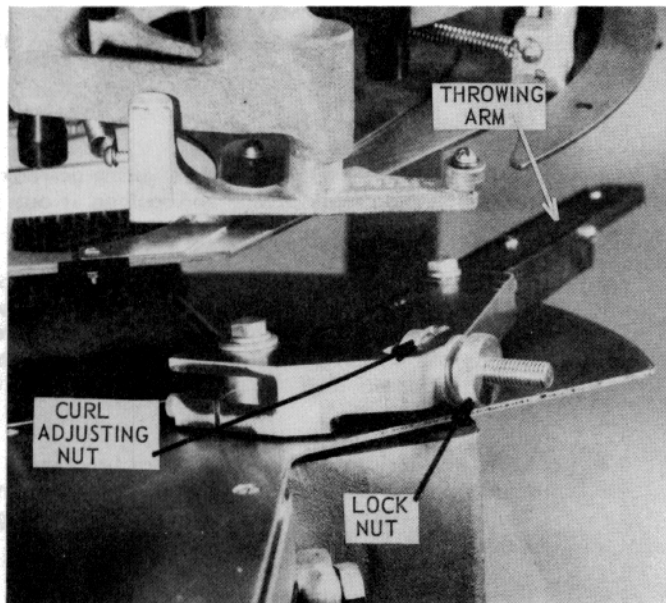

Figure 14 — Target Throwing Arm
- 1.2 Turn the curl adjusting nut (see Figure 14). Moving the throwing arm toward the target will correct curl to the right. Moving the arm away from the target will correct curl to the left.